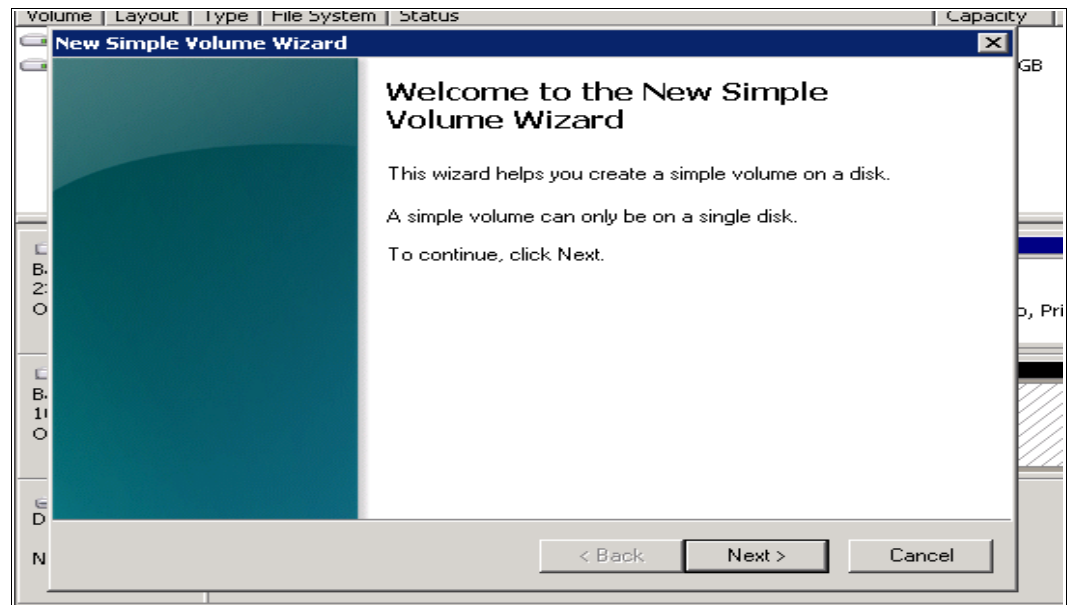
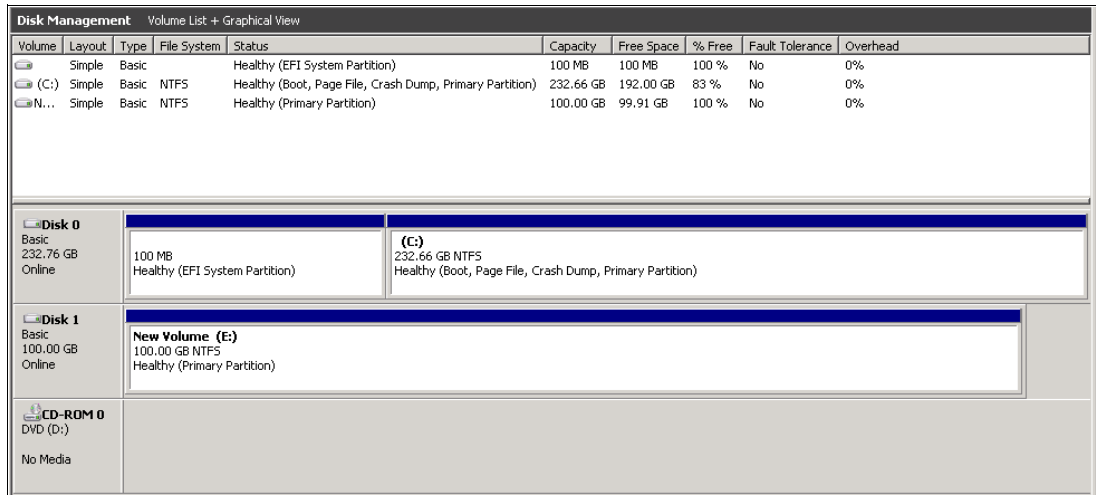

Figure 5-65 Simple volume wizard
Figure 5-66 SAS attached volume ready to use
10. The New Simple Volume wizard starts, as shown in Figure 5-65. Follow the wizard and the volume is ready to use from your Windows host, as shown in Figure 5-66 on page 207. In our example, we mapped a 100 GB disk on the IBM Storwize V5000 to a Windows 2008 host that uses SAS direct attach connectivity.